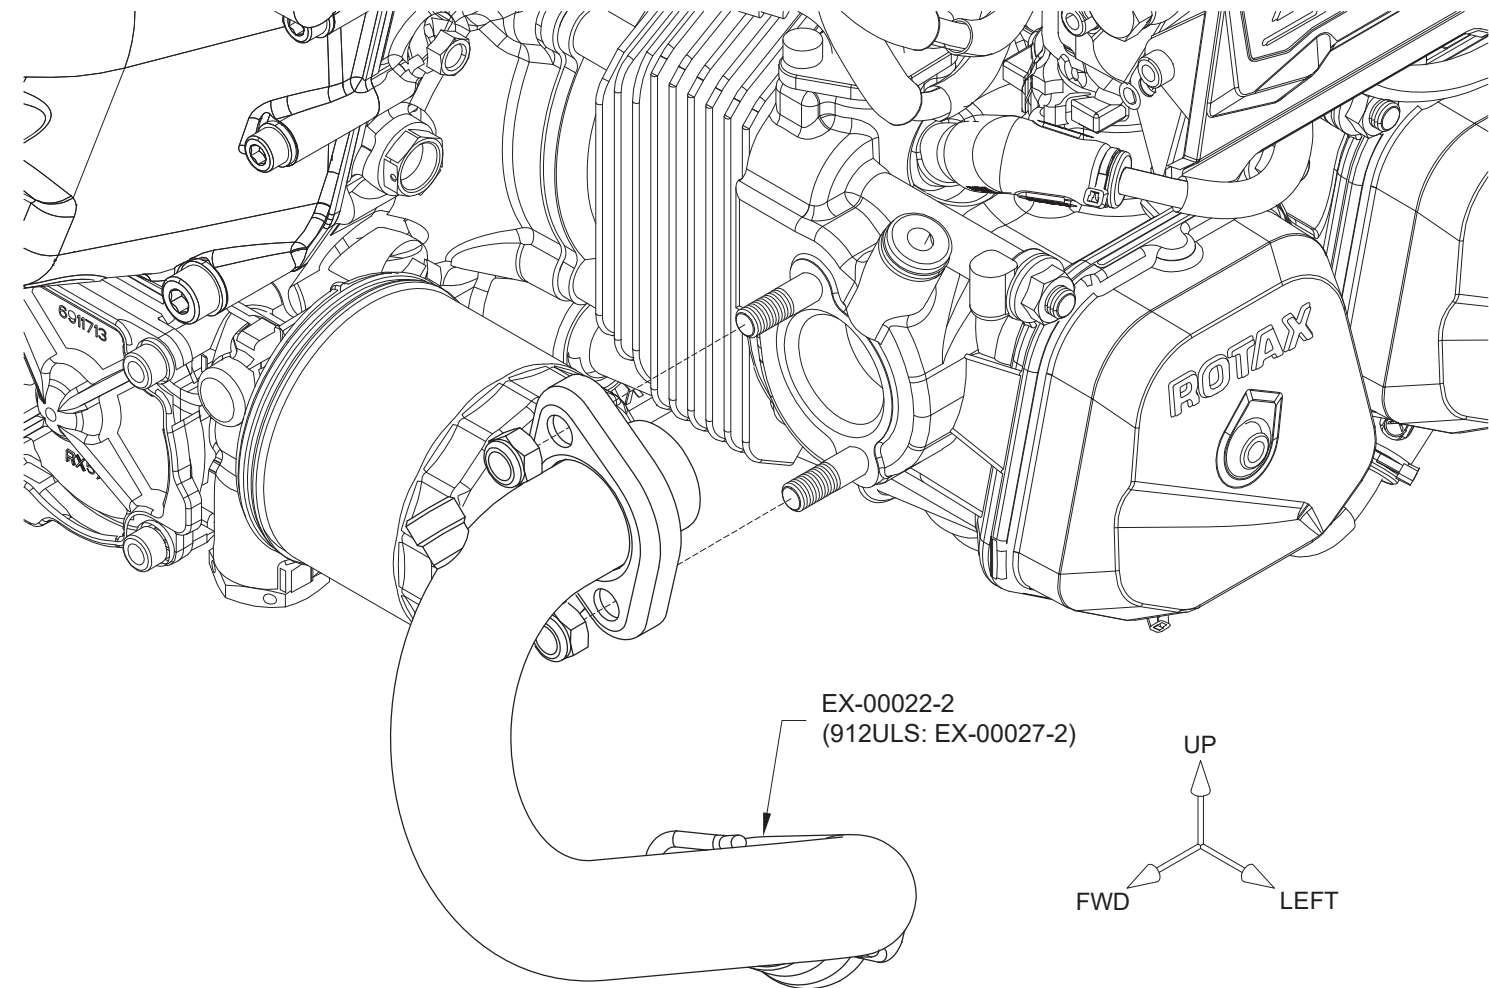

FIGURE 3: CYLINDER #2 EXHAUST INSTALLATION
Step 3: Install the EX-00022-2 into the left side forward exhaust port as shown in Figure 3. Start the exhaust stud nuts onto the studs but do not tighten further than the point at which the exhaust stud begins to extend beyond the end of the nut.